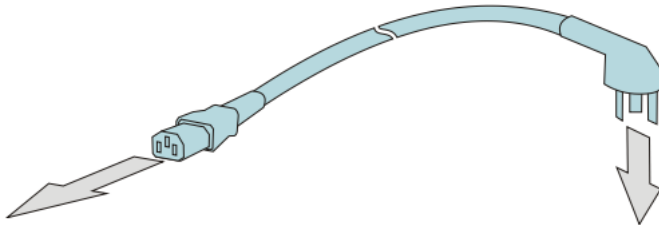

*Figure 36: Installing the transceiver*
- Push the SFP transceiver with the lock closed into the slot until it latches in. See Figure 36.